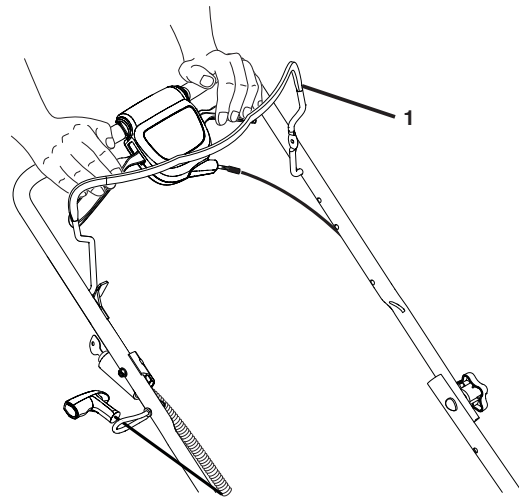

Figure 14
1. To stop engine, release operator presence control bar (Figure 14).